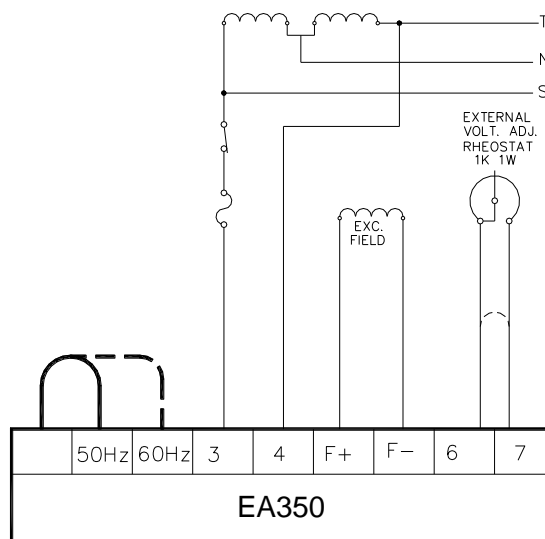

Figure 5 1Ø 220VAC Diagram
- See Figure 5~6 for typical connection diagram.
See Figure 5~6.
When using a remote voltage adjust rheostat, remove the jumper wire across terminals 6 and 7 and install a 2000 ohm 1/2 watt (minimum) rheostat. This will give $\pm 10\%$ voltage variation from the nominal. (For $\pm 5\%$ voltage variation use a 1000 ohm 1/2 watt rheostat). See Figure 5~6.
- Rheostat Jumper connected across terminals 6 and 7. This enables adjustment of the generator output voltage rheostat. A 1000 ohm, half-watt rheostat will provide adequate voltage adjustment range for most applications. Figure 5~6 shows the proper remote rheostat connections.